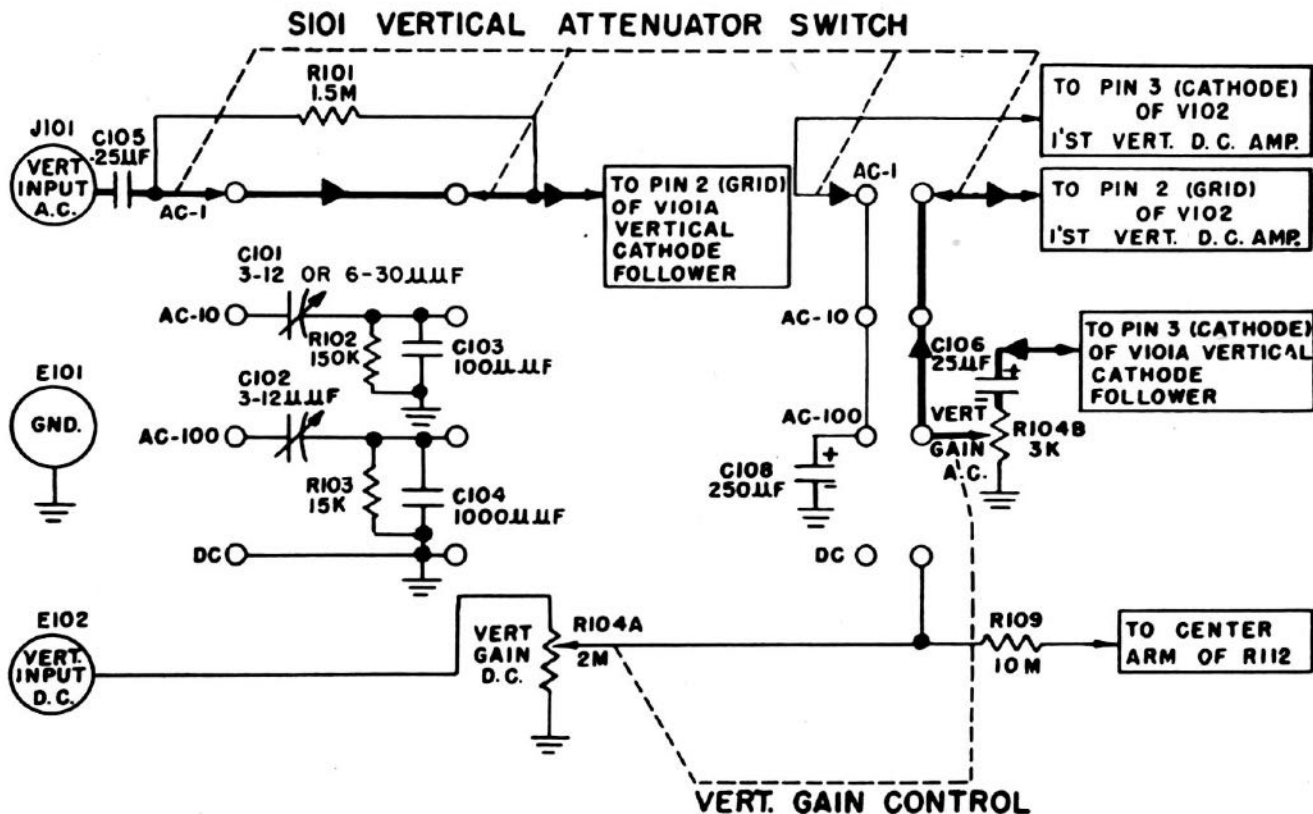

Figure 2-2. Vertical Input Attenuator
(1) VERT. ATTEN. AND VERT. GAIN. (See Figure 2-2)